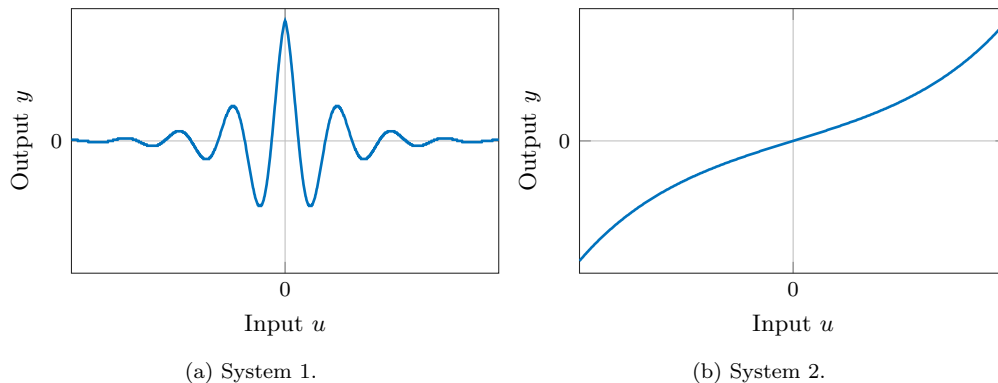

Figure 1: Relationship between input u and output y of system 1 and system 2.
- (4 %) (a) In Figure 1 the relationship between input u and output y of two different memoryless systems are shown. Please explain briefly, if the systems are passive or not.